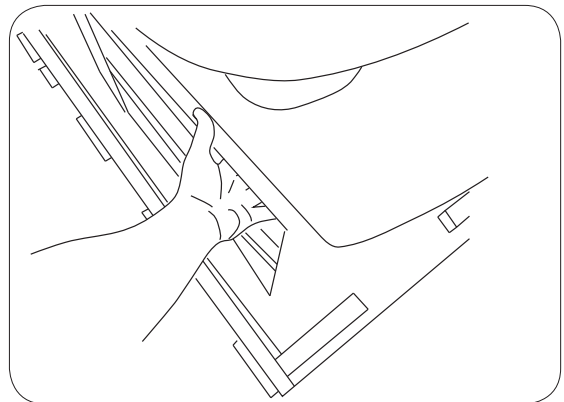

Figure 13. Left rear hand hold
17. Rear lifting points are provided by the top rear pass through drawer openings at the left and right sides (figures 13, 14 and 16).